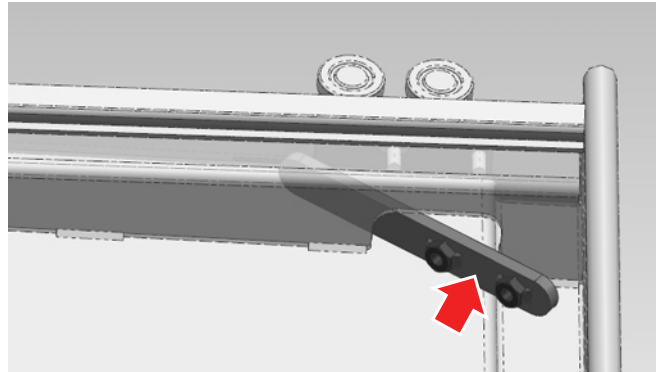

Figure 5
7. Utilizing flat washers (322357) and bolts (9X2046), install both of the new backing plates (A518012-001) and the door wheels that were set aside in step 5 into sliding door (see Figure 5).